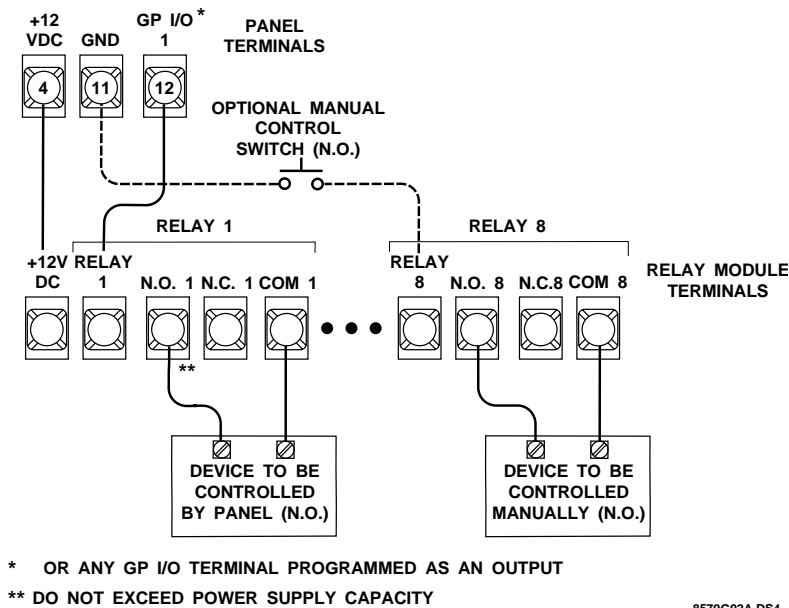

Figure 3. Wiring Card to Advent Panel.
2. Wire the card to the panel as shown in figure 3 and table 1.